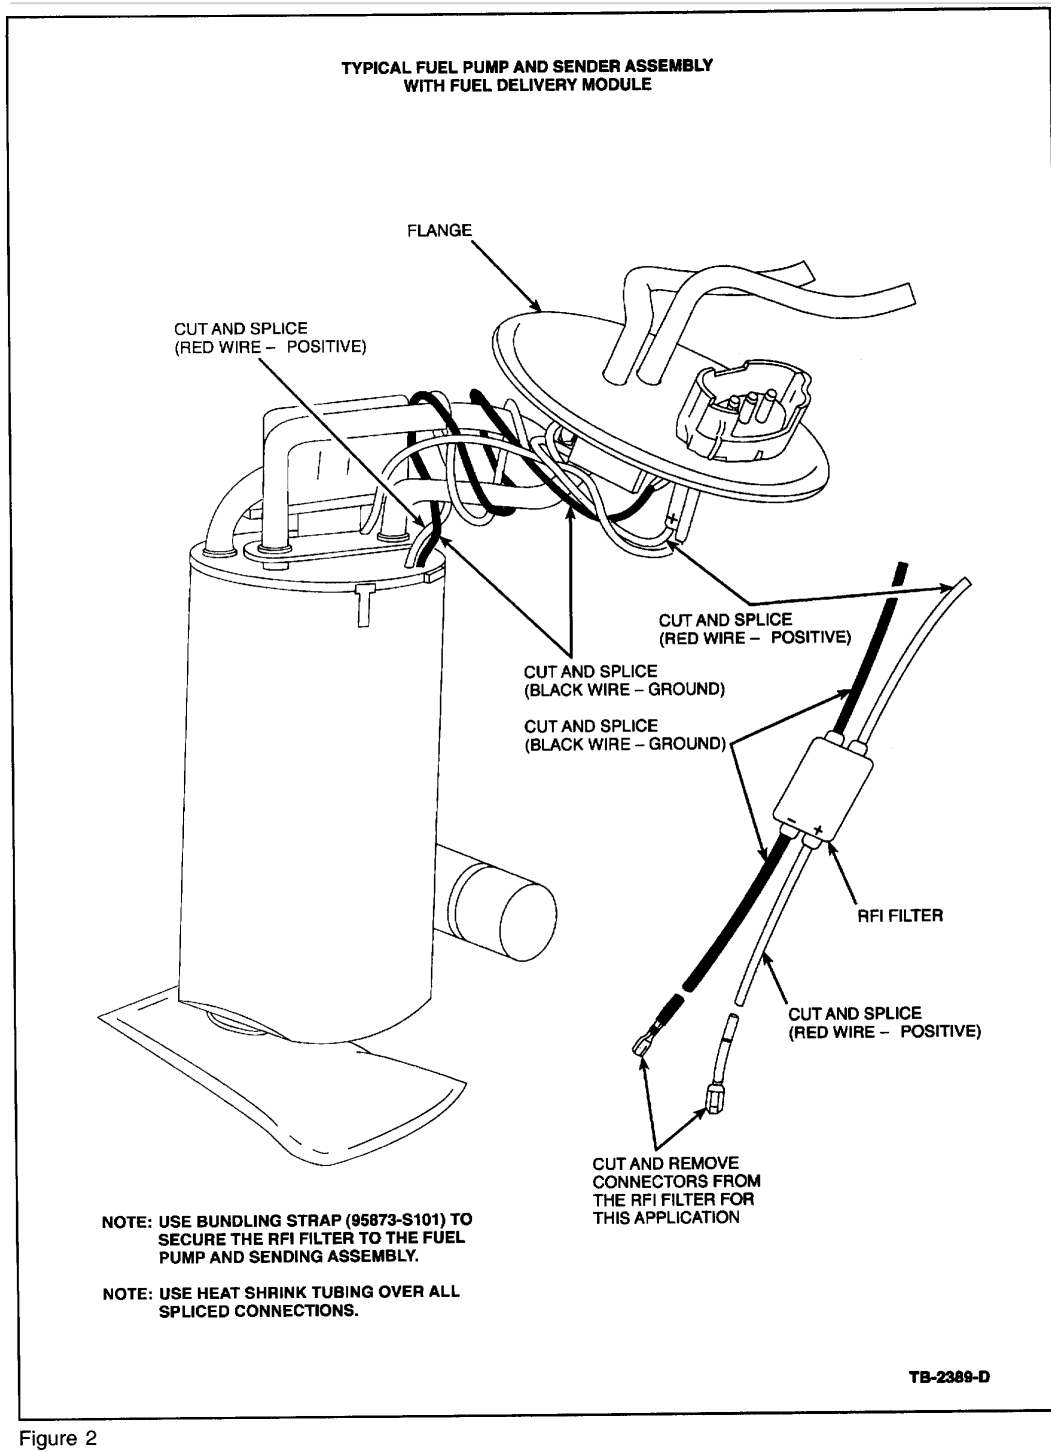

Figure 2
3. On light trucks and compact trucks with a fuel delivery module, cut the fuel pump wires to the fuel delivery module 50 mm (2") from the flange and discard the wires, Figure 2.